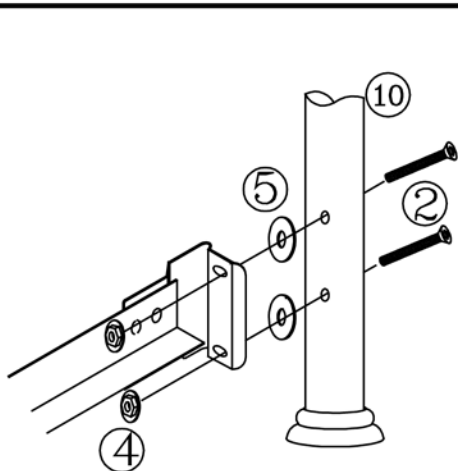

FIGURE 4
- Position footboard panel and align holes in the post with holes in the frame bracket. (See figure 4)